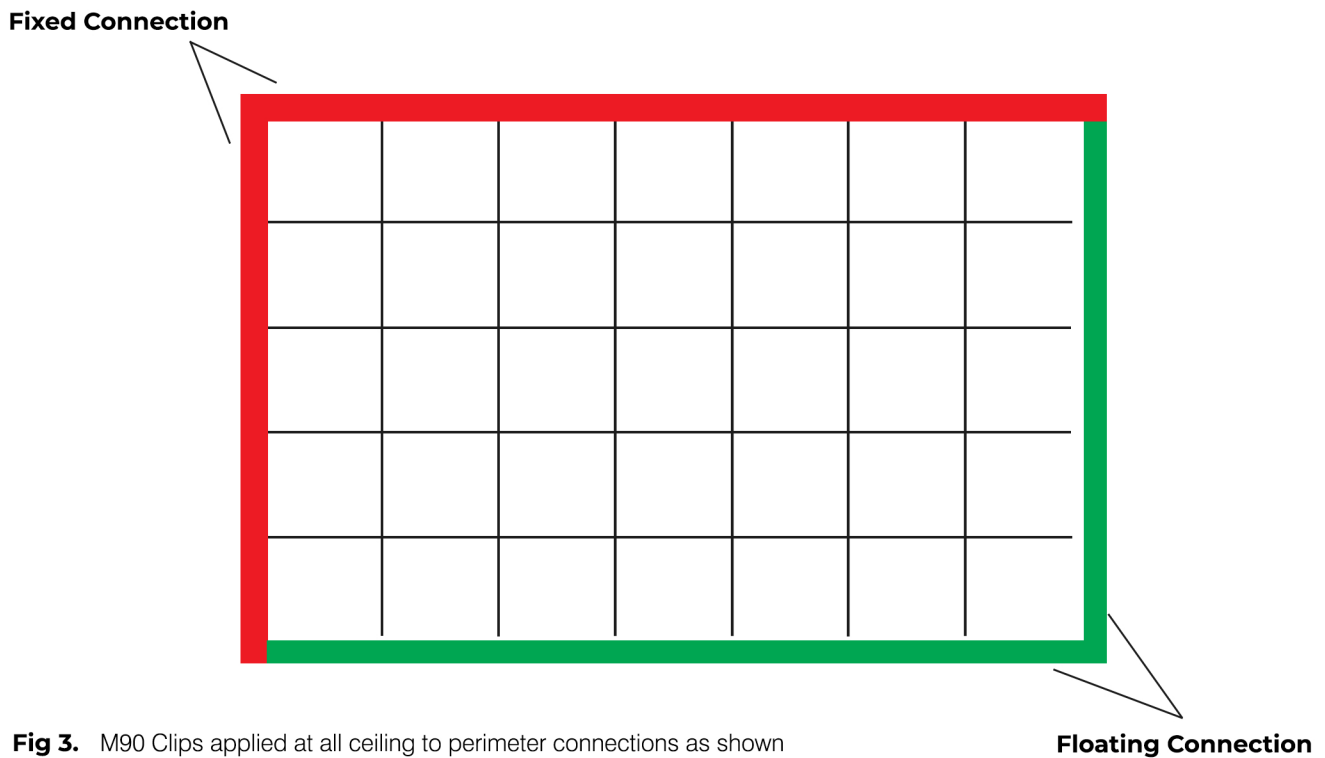

Fig 3. M90 Clips applied at all ceiling to perimeter connections as shown
For bracing the ceiling against lateral loading, Fixed and Floating connection details to the perimeter are required. Metinno M90 Clips are used to fix the ceiling to the perimeter on two adjacent sides as shown in Fig 3. M90 Clips are also installed on opposite sides, creating a seismic sliding connection. Lateral loads are transferred from the ceiling to the perimeter through the perimeter fixing.
2. M90 Clip (applied as per Fig 3 on Page 6). The M90 Clip also helps maintain the alignment of the ceiling grid during a seismic event, preventing the T-Bars' ends from separating and ensuring panels remain securely in place